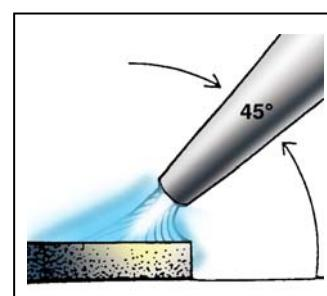

Figure 5
22. Hold the torch at a 45-degree angle, with the inner cone approximately $\frac{1}{8}$ in. from the work. Refer to Figures 5 and 6.